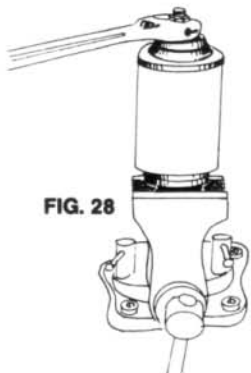

FIG. 28
11. Spin **5/8 NUT** onto **PULLER SHAFT** and tighten until bearing cup is removed from retainer. (Fig. 28)